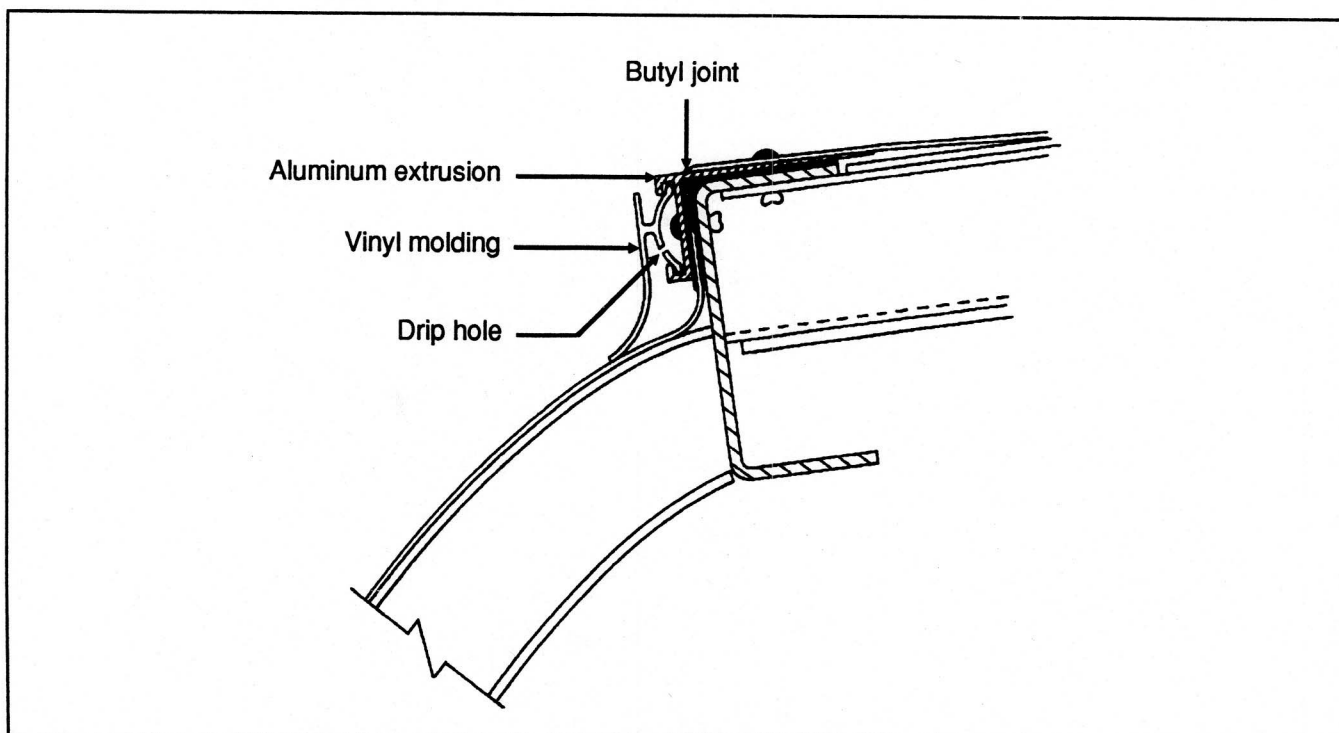

Figure 6
28. Lift vinyl molding, drill three drip holes with a #11 bit towards the centre of the fixed windows, then replace molding. See figure 6.
29. Perform a butyl joint on the aluminum extrusion. See figure 6.